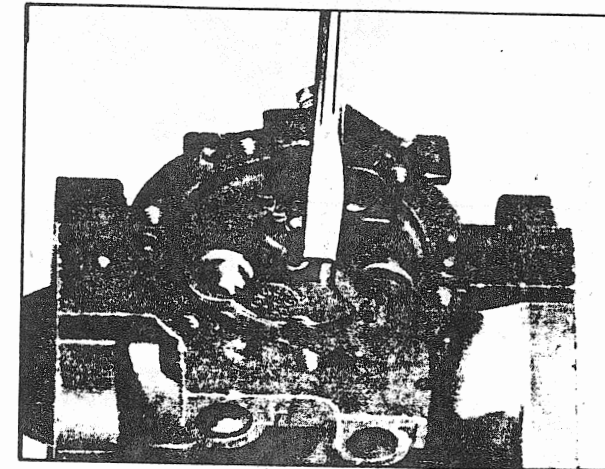

FIGURE 11
- Inlet control lever must be adjusted until the lever center, in contact with the metering diaphragm, is flush with the metering chamber wall. (Fig. 11).